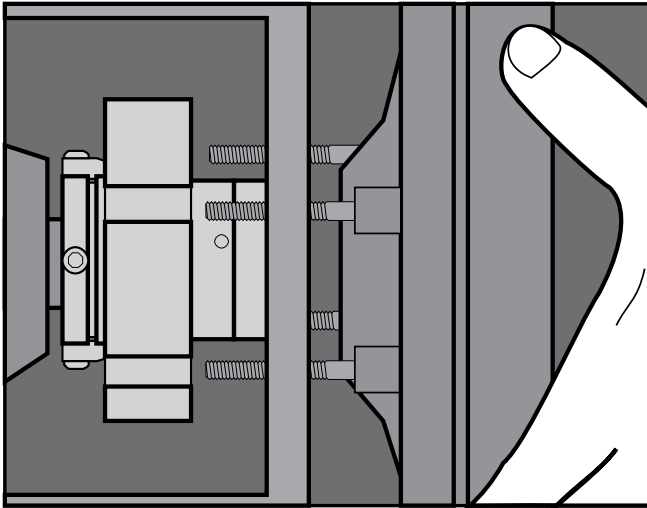

Figure 4
2.4 Install the pump back plate (seal chamber) and bolt it in place on the bearing frame. See figure 4.